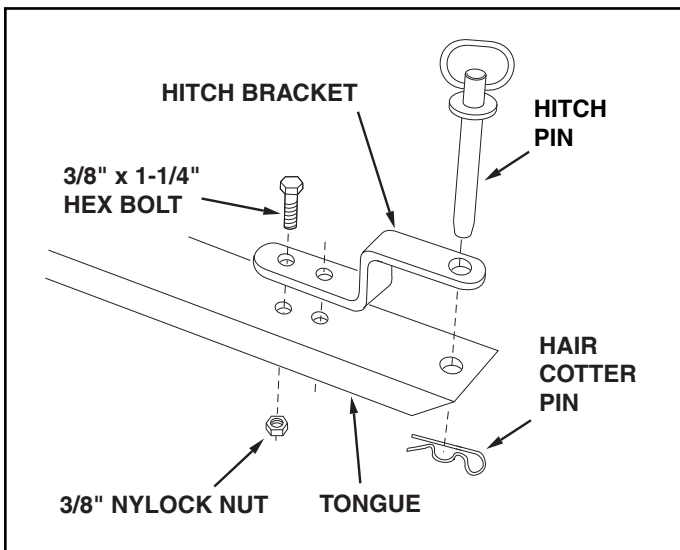

FIGURE 9
- Assemble the hitch bracket to the front tongue using two 3/8" x 1-1/4" hex bolts and 3/8" nylock nuts. **Tighten.** See figure 9.
- Secure the hitch pin to the hitch bracket and tongue with the hair cotter pin. See figure 9.